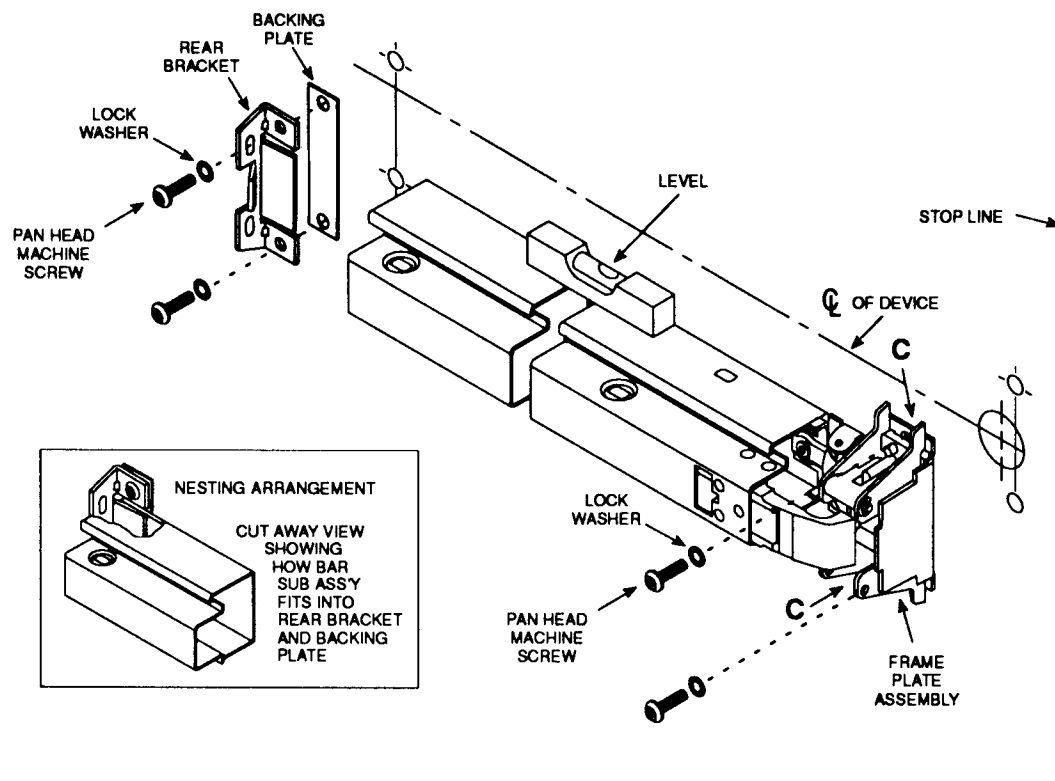

Figure 9
- A. If trim is used install trim first, then install device with two pan head machine screws and two lock washers (or throughbolting screws packed with trim) in frame plate assembly holes marked C (Figure 9). Use level as shown to ensure device is level. Use rear bracket to spot, drill and tap two rear bracket mounting holes. Attach rear bracket and backing plate to door using two pan head machine screws and two lock washers. Tighten all pushbar screws securely.